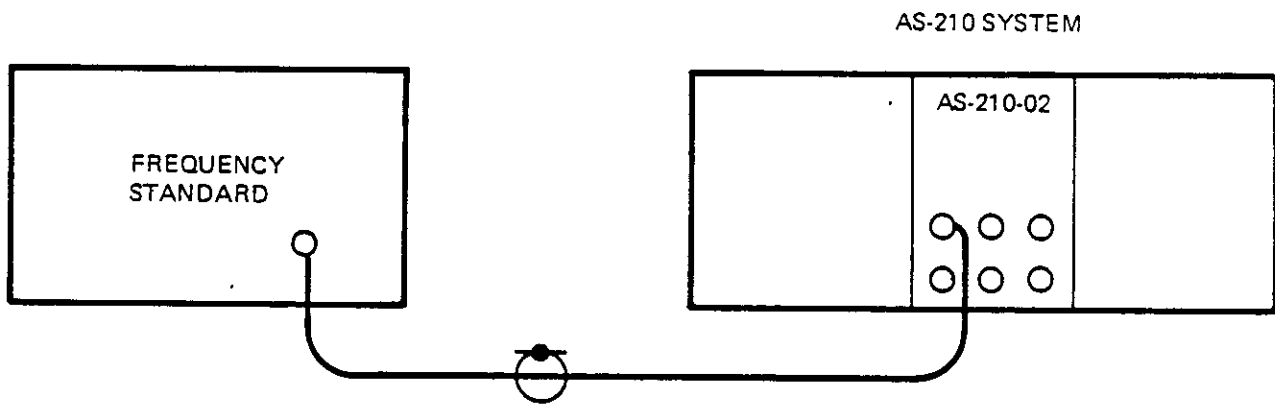

Figure 5.2 AS210 Internal Frequency Standard Drift Test Configuration
- B. Connect the equipment as indicated in Figure 5.2 and apply power to the AS210 system. The Rubidium frequency standard in the AS210 Mainframe will require 20 minutes warm-up time to reach the specified frequency accuracy.